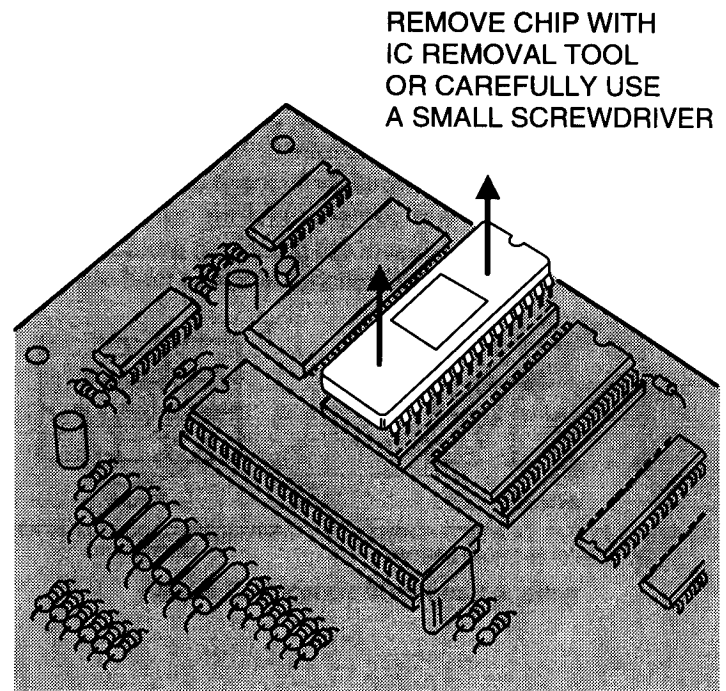

Figure 55. Removing Program Memory Chip
**STEP 4** Remove program memory chip. Locate the proper chip. There are three large chips mounted vertically. The program memory chip is the center chip with a white version number label on it. With an IC removal tool or a small flat blade screwdriver, carefully lift or pry between the top side of the chip and the socket. The chip should slide out of the socket (see Figure 55).